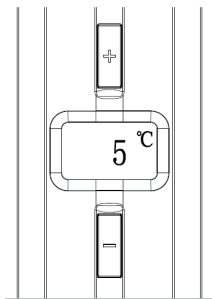

Figure 9
7. Temperature control function: The starting temperature is the previously set temperature. The cooling temperature can be adjusted by pressing the „+“ or „-“ button on the control panel. The temperature increases by one degree each time the „+“ button is pressed. Press the „-“ button once to decrease the temperature by one degree, the display will show the actual temperature of the beer in the keg, press any button to show the set temperature and return to the actual temperature after 3 seconds. Press and hold the „+“ and „-“ buttons to toggle between Fahrenheit and Celsius. The cooling temperature of the beer cooler is adjustable between 3 and 12 °C (37 and 53 °F) The machine has a power-off memory function (factory setting is 5 °C (as shown in Figure 9).